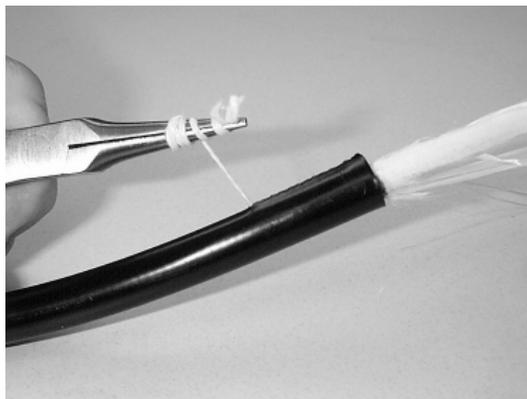

Figure 26 – Pull the ripcord through the outer jacket.
7.8 Wrap the ripcord around a pair of pliers and pull the ripcord through the cable jacket to the ring cut (Figure 26).